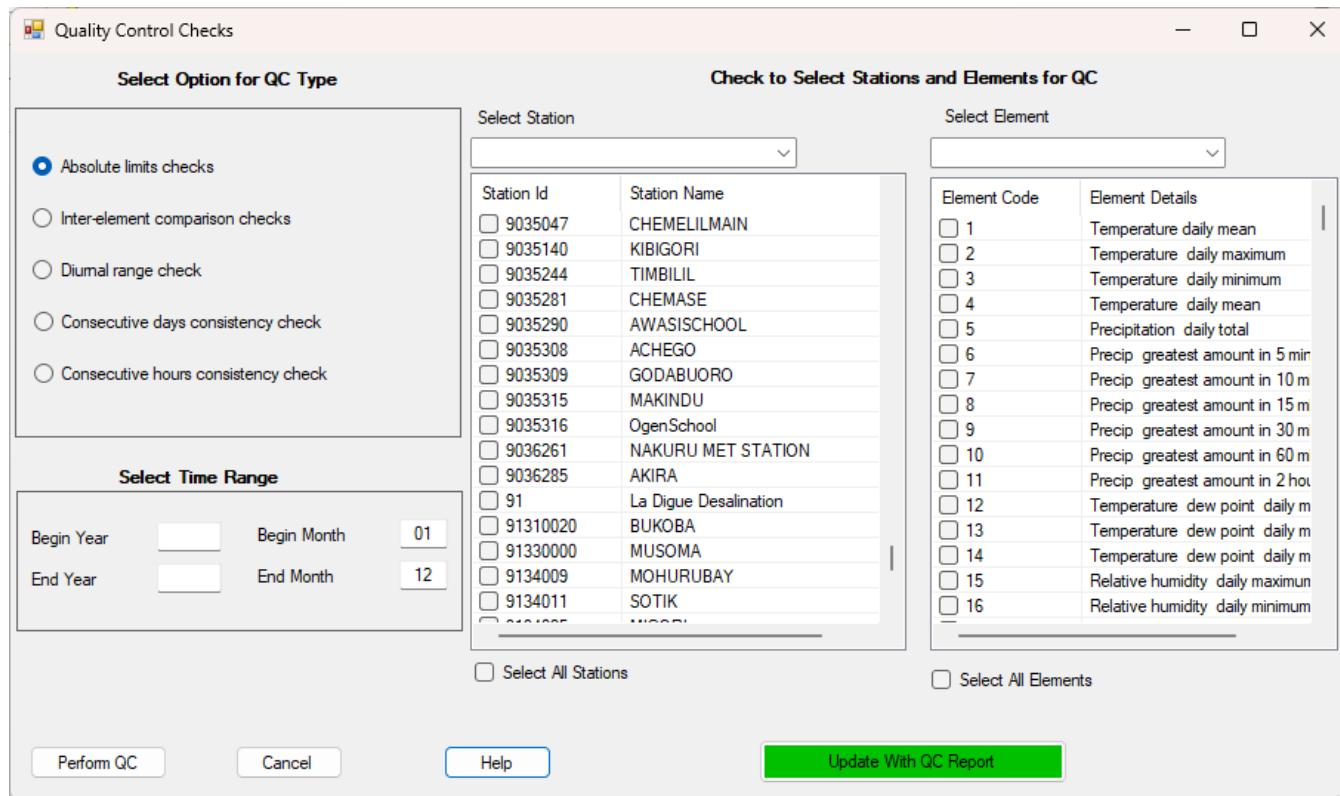
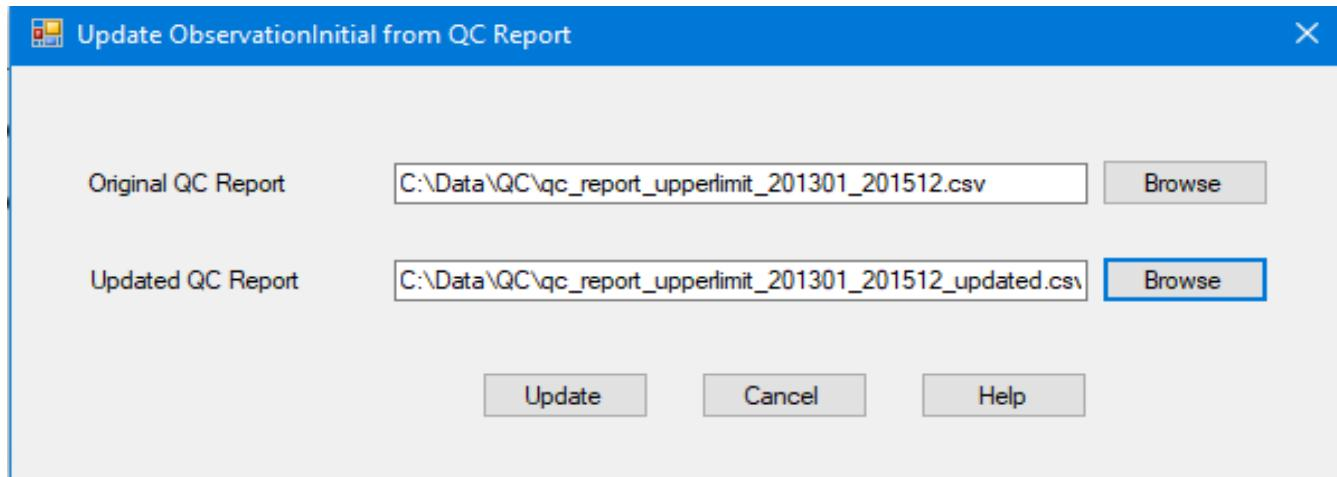

Figure 43: Quality Control Checks
Figure 47: Dialog for updating database from a QC report
Climsoft provides a facility for further Quality Control (QC) checks on data that has been uploaded from key-entry tables or imported from external sources into the “**observationinitial**” table. The dialog for these QC checks, shown in Figure 43, is accessed by clicking the icon “**Quality Control Checks**” on the Welcome screen.
QC operations in Climsoft are carried out by first selecting the option for the required QC type and then providing all other information as shown in the dialog in Figure 43 above. This dialog is simple and self-explanatory. Stations and Elements can be selected either through the list box or checking on the boxes in front of their Ids or Codes respectively. As many stations and elements can be selected as necessary. If any required item (station or element) is not shown scroll bars can be used so that they are displayed and selected
To update the database from the QC report, the “Update With QC Report” button on the QC main dialog shown in Figure 43 should be clicked. When the “Update With QC Report” button has been clicked, the dialog in Figure 47 will appear, with provision to browse for the original QC report file and the updated report file. After clicking the “OK” button, the database is updated with the changes made in the QC report.